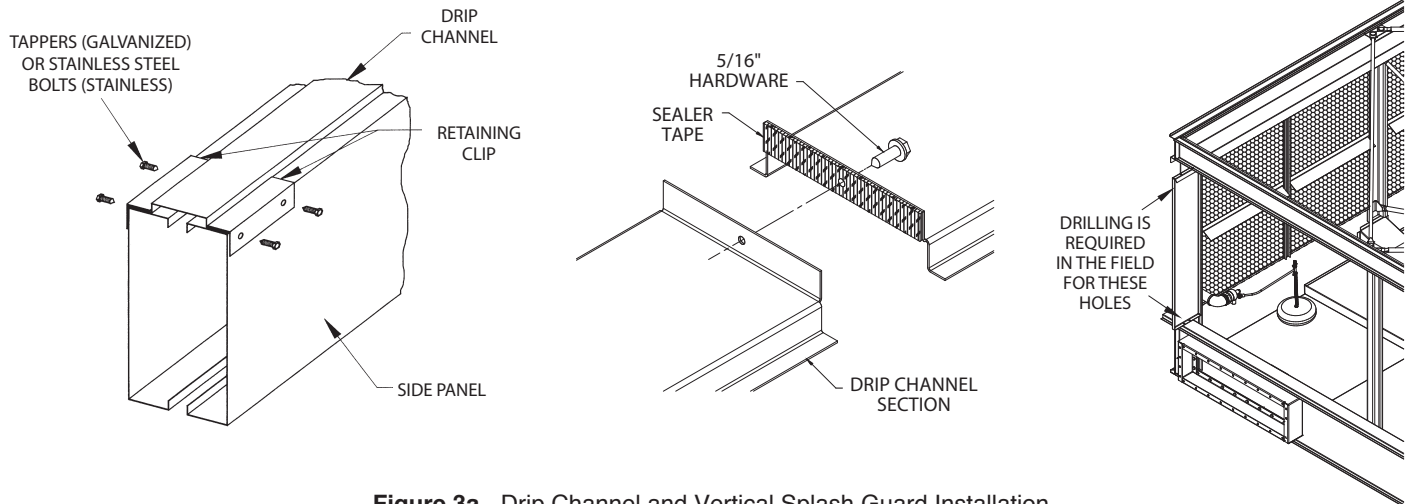

Figure 3a - Drip Channel and Vertical Splash Guard Installation
2. Apply a single layer of sealer tape to the mating flange of the drip channels (see Figure 3a). Fasten drip channels together end-to-end by driving a self-tapping 5/16" (8mm) screw through the section end with the larger hole into the mating end with the smaller hole. Stainless steel units will use 5/16" (8mm) stainless steel nuts and bolts.